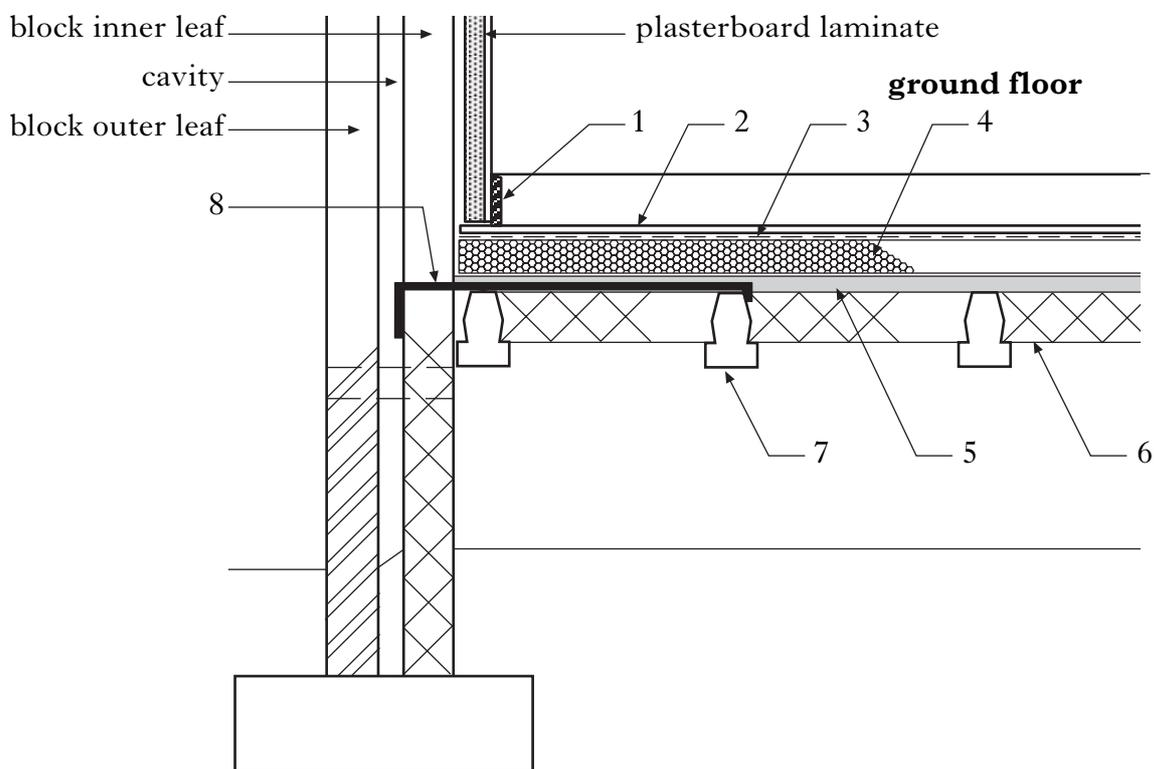

Figure Q7
7. Figure Q7 shows a vertical cross section through a concrete precast suspended ground floor of a dwelling house.